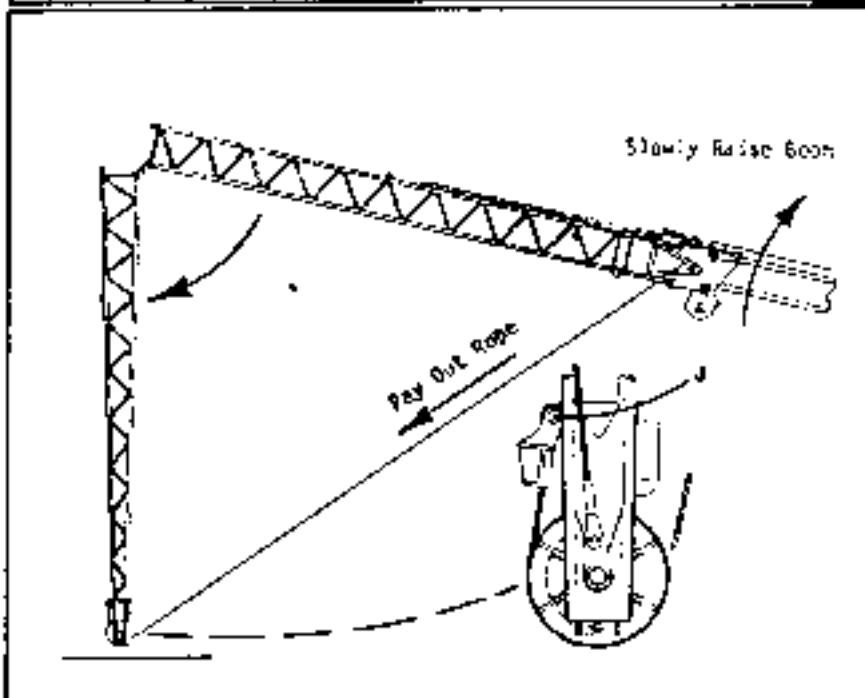

Fig. 4-43
Step 8 Boom up while slowly paying out hoist rope until the jib top section hangs vertical. Remove the hoist rope from the jib top section. Refer to Fig. 4-43.